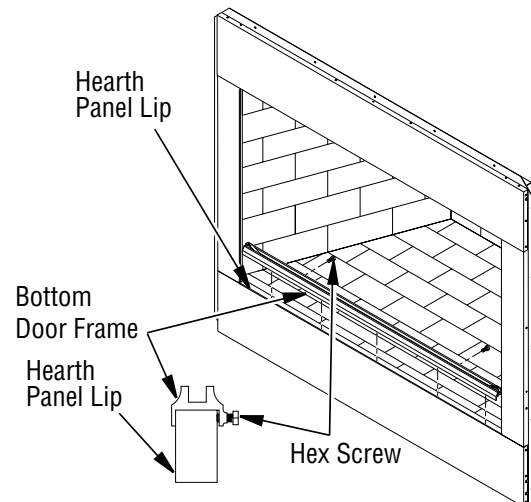

Figure 40 - Installing Bottom Door Frame
3. Place bottom door frame on top of Hearth Panel Lip at front of fireplace (see Figure 40).
4. Secure bottom door frame to brick with two hex screws provided as shown in Figure 40 using a 7/16" open end or adjustable wrench.